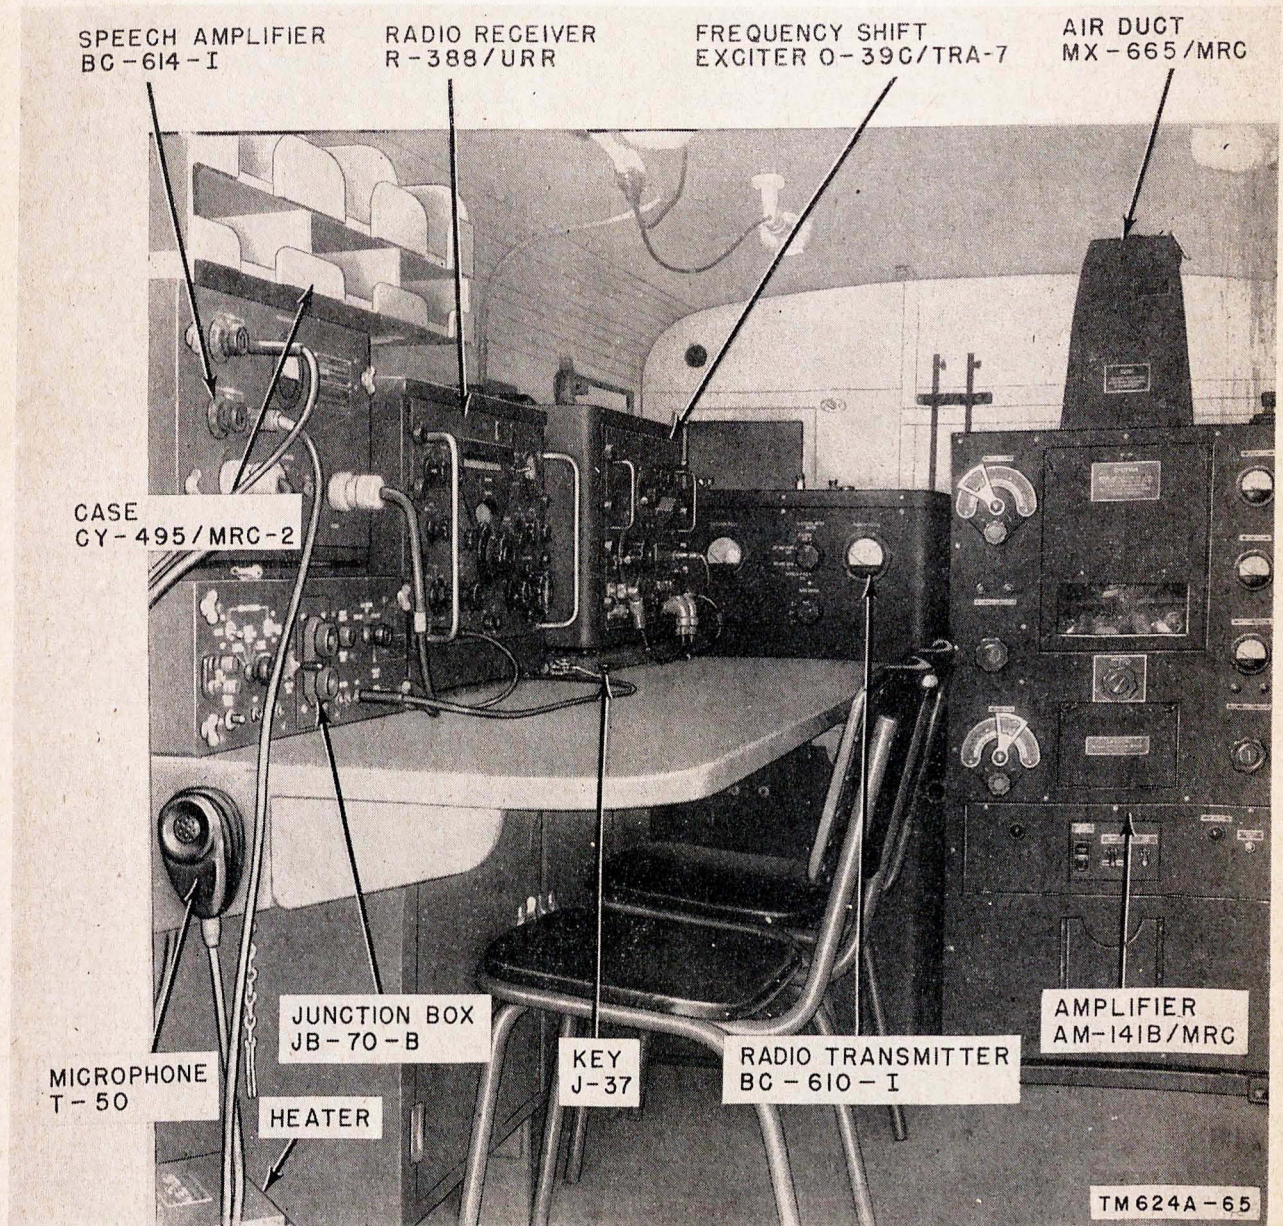
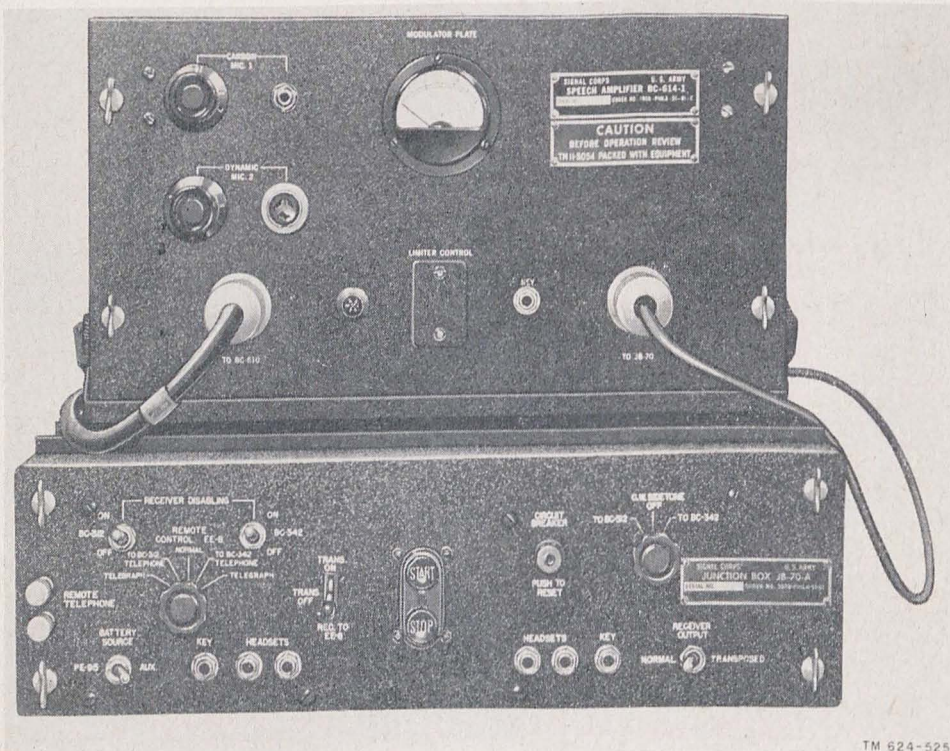

Figure 6. Radio Set AN/MRC-2D, interior view of transmitting shelter.
Figure 7. Junction Box JB-70-A and Speech Amplifier BC-614-I.
table. In Radio Set AN/MRC-2D, an operating table with built-in storage compartments extends along the roadside wall (fig. 6).
*b. Junction Box JB-70-(\* )* (fig. 7). In Radio Set AN/MRC-2C, Junction Box JB-70-A is located in Chest CH-120-B (fig. 5). In Radio Set AN/MRC-2D, Junction Box JB-70-B is located on the operating table (fig. 6). Power for the transmitting shelter is connected by a cable through a feedthrough receptacle in the rear wall to Junction Box JB-70-(\* ), which is the power distribution point and control center for the shelter components.
*c. Speech Amplifier BC-614-I* (fig. 7). The speech amplifier is shock-mounted directly to the top of Junction Box JB-70-(\* ) (figs. 5 and 6). Four hasps on the sides of the amplifier cabinet anchor it securely to the shock mount. The speech amplifier raises the microphone output voltage to a level suitable to drive the input of the audio circuit in the transmitter. It also provides sidetone for monitoring cw transmission at Junction Box JB-70-(\* ).
e. *Radio Receiver R-388/UUR.* Radio Receiver R-388/UUR is supplied with Radio Set AN/MRC-2D. It is located on the operating table adjacent to the speech amplifier (fig. 6). The unit is assembled on a single chassis, which slides into Cabinet CY-1213/U. The receiver is used for the reception of voice and cw signals over a frequency range of .5 to 30.5 mc, for two-way communication from the transmitting shelter. The receiver is connected to the whip antenna, mounted at the rear of Shelter HO-17-(\*).
Chest CH-120-B (fig. 5). In Radio Set AN/MRC-2D, Frequency Shift Exciter O-39C/TRA-7 is shock-mounted on the operating table (fig. 6). The unit is assembled on a single chassis and enclosed in a steel case. The frequency-shift exciter unit becomes the oscillator stage of the transmitter, providing the basic radio frequency (rf) and the frequency shift desired on the transmitted *mark* and *space* signals. The frequency range of the exciter unit is 2 to 6 mc.